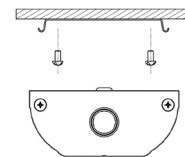

Fig.4 SURFACE MOUNTING
**STEP 4** Snap Housing on Snap On Brackets as shown in Fig. 4.